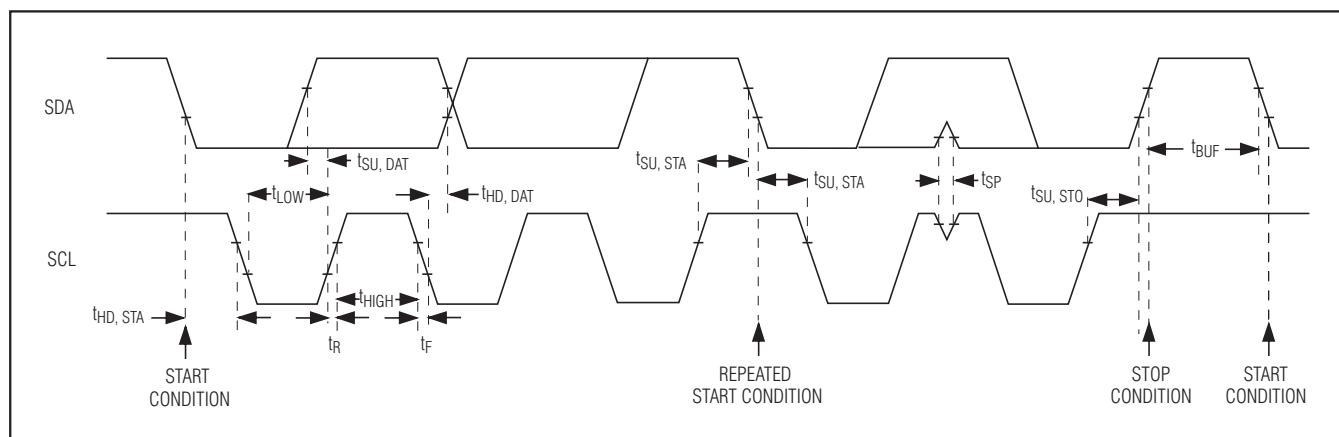

Figure 6. I²C Serial-Interface Timing Diagram
The MAX9598 features an I²C/SMBus™-compatible, 2-wire serial interface consisting of a serial data line (SDA) and a serial clock line (SCL). SDA and SCL facilitate communication between the MAX9598 and the master at clock rates up to 400kHz. Figure 6 shows the 2-wire interface timing diagram. The master generates SCL and initiates data transfer on the bus. A master device writes data to the MAX9598 by transmitting a START (S) condition, the proper slave address with the R/W bit set to 0, followed by the register address and then the data word. Each transmit sequence is framed by a START (S) and a STOP (P) condition. Each word transmitted to the MAX9598 is 8 bits long and is followed by an acknowl-